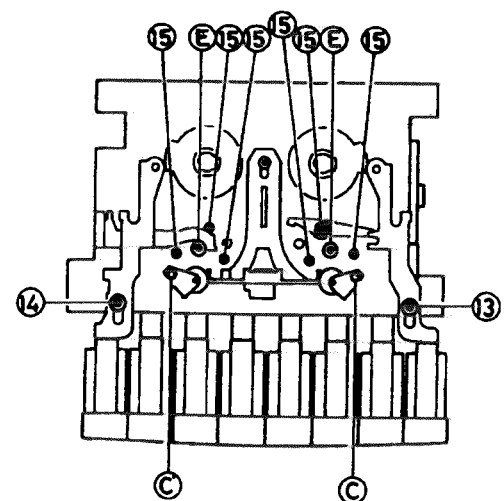

Fig. 2-19
■ Removal of button base assembly (See Fig. 2-19)
1. Turn the mechanism upside down and remove two screws (12) retaining the button base assembly.
2. Remove one screw (13) retaining the pause button lever.
4. Push the reverse button lever and remove one screw (14) retaining the reverse button lever. Then, remove the button reverse stud.